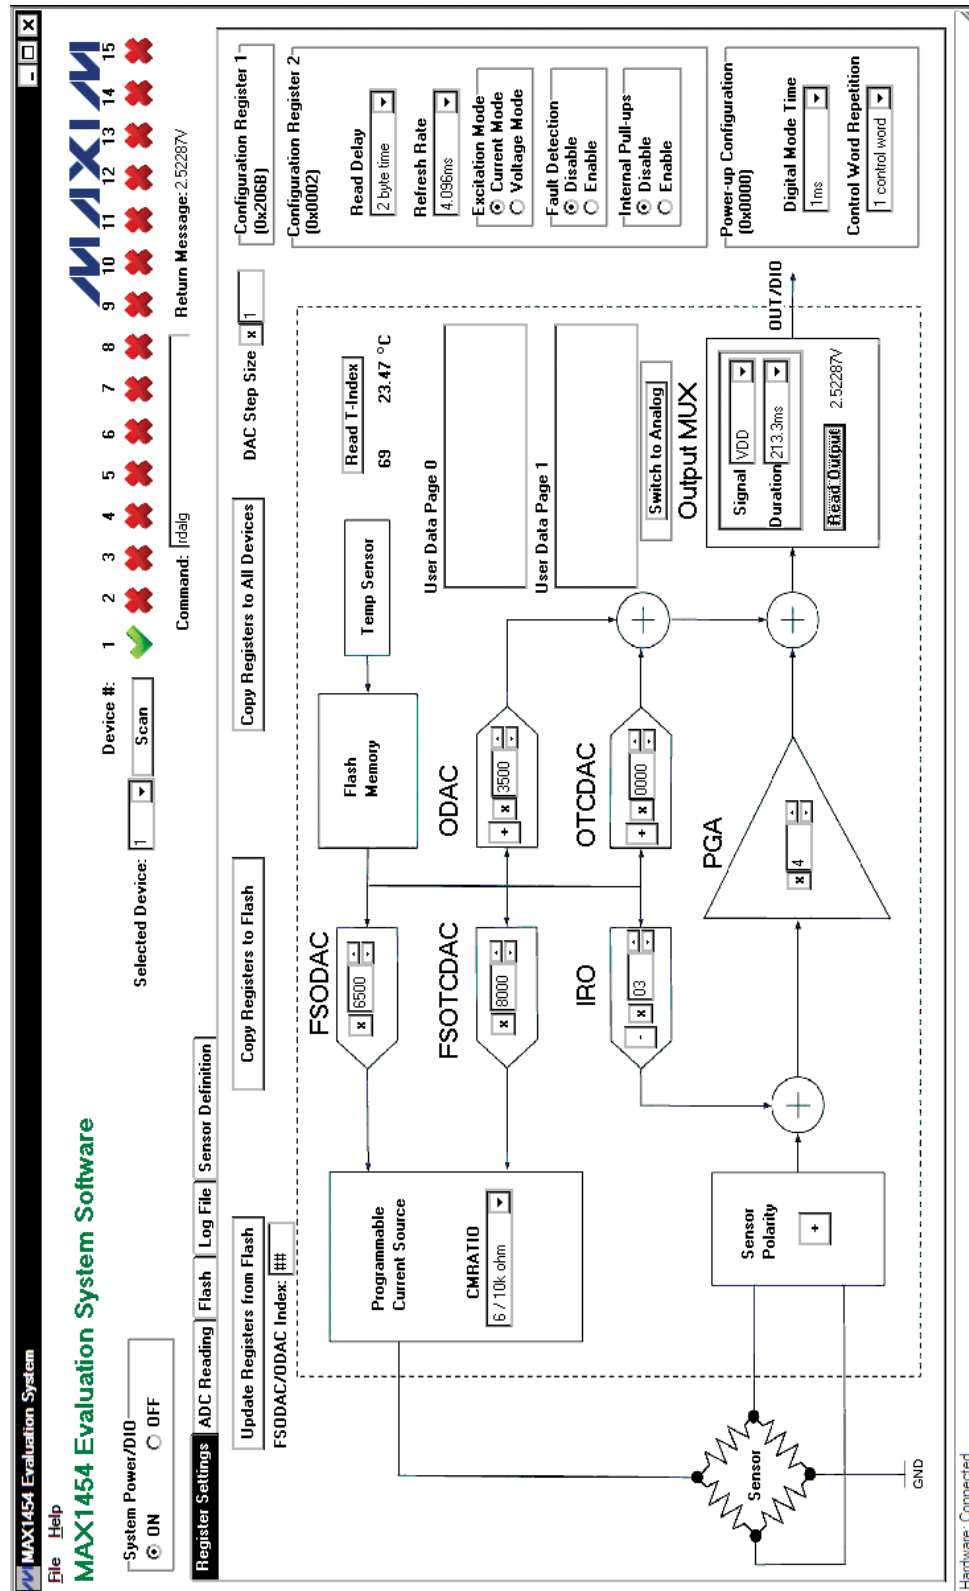

Figure 2. MAX1454 EV System Software Main Window (Register Settings Tab)
- 6) Start the EV system software by opening its icon in the **Start | Programs | Maxim EVKIT Software | MAX1454** menu. The EV system software main window appears, as shown in Figure 2.
- 8) In the **Output MUX** group box (Figure 2), select **VDD** from the **Signal** drop-down list.
The MAX1454 EV system software (Figure 2) has all the functions to configure the MAX1454. When the software starts up, it scans the system and determines the number and position of operational MAX1454 present in the system. The first operational MAX1454 device is selected, powered up, and initialized to communicate in digital mode.
After the software starts up and is connected to an active device selected in the **Selected Device** drop-down list, the default register values on the **Register Settings** tab sheet (Figure 2) are written in the active MAX1454 registers. Through the software, all parameters with a white window area can be edited by the user. The parameters can be edited by typing a new value in the edit box, selecting from a drop-down list, or by pressing a button. The revised value is automatically written to the corresponding MAX1454 register. All entries can be in hexadecimal or decimal format, except the **FSODAC/ODAC Index**, which must be in decimal format.